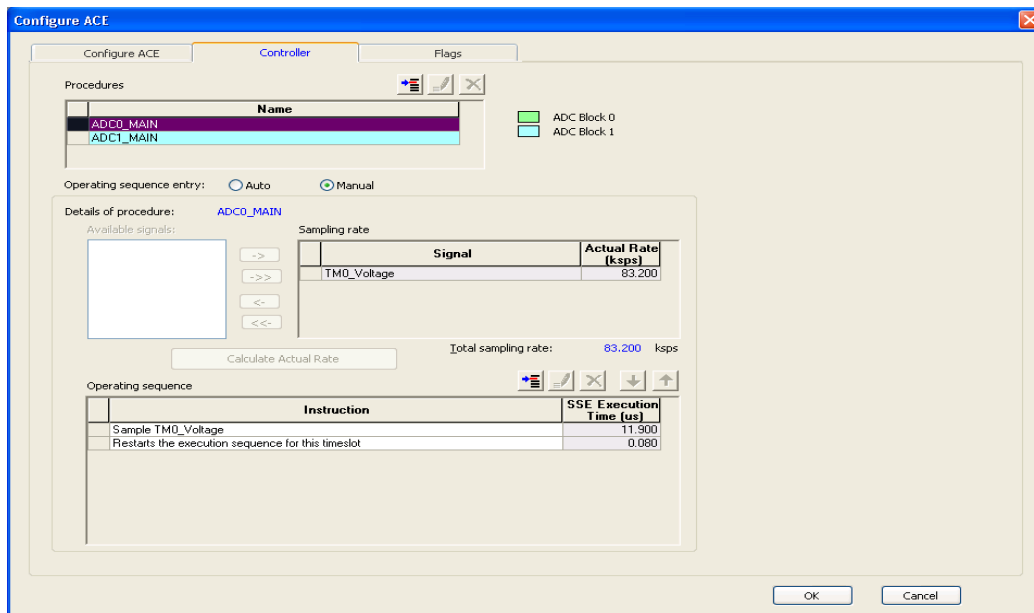

Figure 16 · MSS ACE Configuration: Controller Tab
12. The **Controller** tab window is displayed as shown in Figure 16 · .